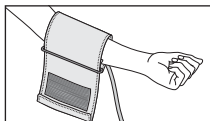

Fig.7
2. Apply the cuff to your left upper arm so that the air tube is directed to your palm (fig. 7). If the measurement on your left arm is difficult, you may use your right arm. In this case remember that the readings may differ by 5-10 mmHg and even more.